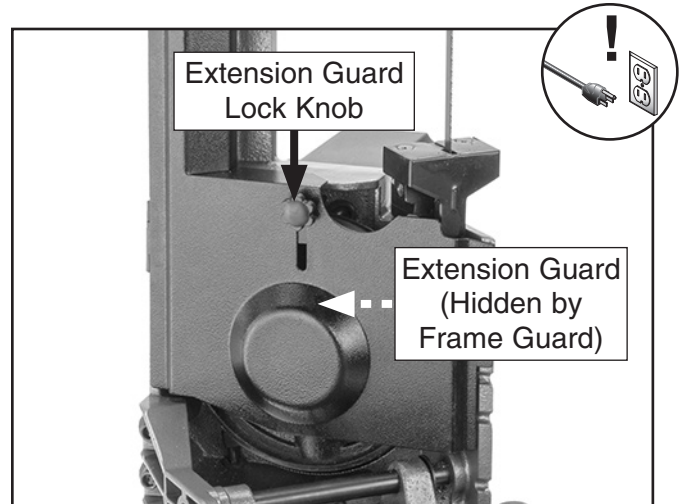

Figure 46. Extension guard in raised position.
5. Loosen extension guard lock knob, fully raise extension guard, and tighten lock knob to secure (see **Figure 46**).